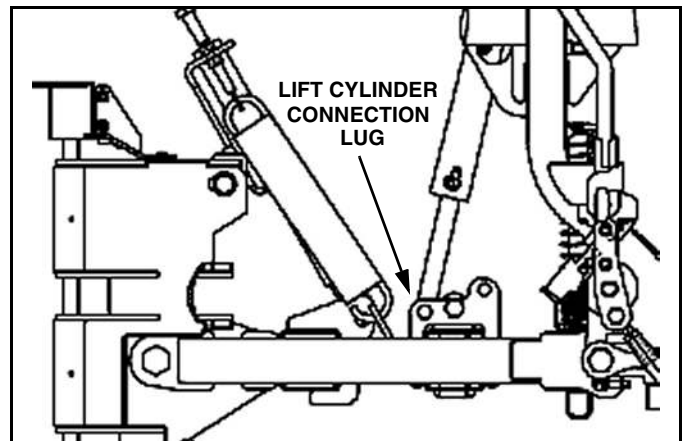

Figure 1-14
12. The lift cylinder lower mounting bracket must be assembled to provide a lower connection point for the cylinder to the A-frame when the middle or bottom lug holes are used. (See Figure 1-14).